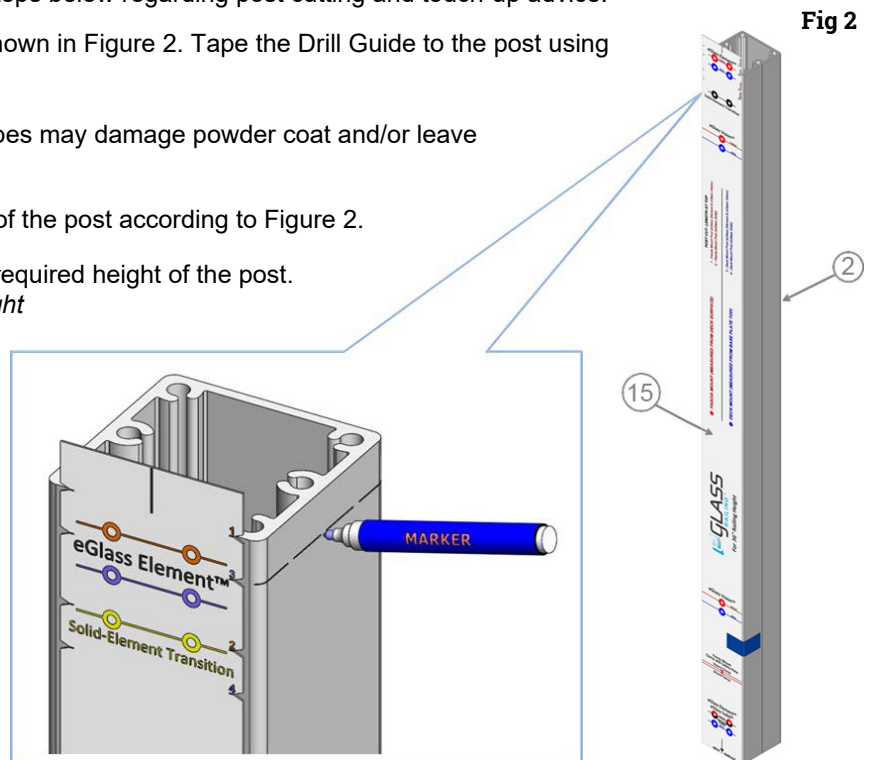

Fig 2
- Select a post blank (2) and identify the post type. If the post is for an inline run, select the appropriate Drill Guide (15) and follow the steps below. If the post is for a stair run, reference your Customer Detail Form instead to determine final cut height, then follow the steps below regarding post cutting and touch-up advice.
- Place the Drill Guide (15) on the post, as shown in Figure 2. Tape the Drill Guide to the post using painter's tape.
- Only use the Drill Guide on the scribe side of the post according to Figure 2.